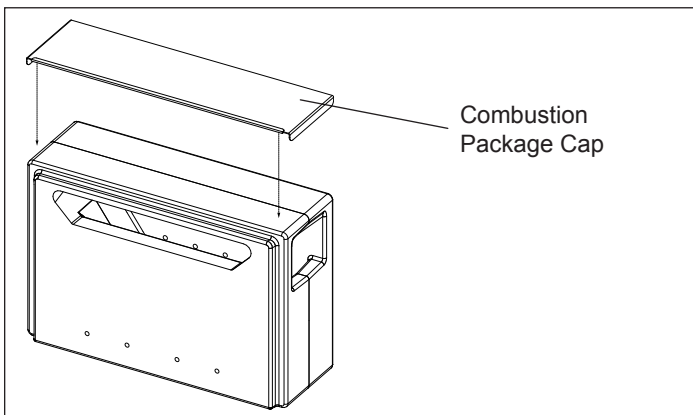

Figure 8
8. The new combustion package should have come with a new combustion package cap, take new combustion package and place the cap on top of it prior to installing combustion package. Figure 8.